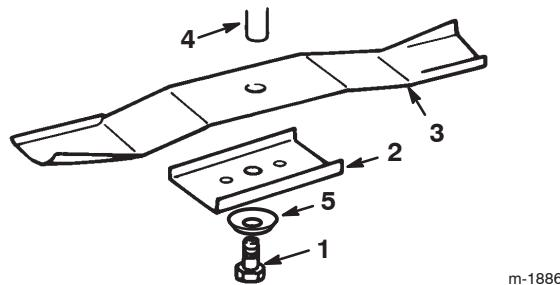

Figure 34
3. Remove the bolt (5/8 in. wrench), curved washer, retainer and blade (Fig. 34). A block of wood may be wedged between the blade and the mower to lock the blade when you are removing the bolt.
1. Install the blade, blade retainer, curved washer (cupped side toward blade), and the blade bolt (Fig. 34).